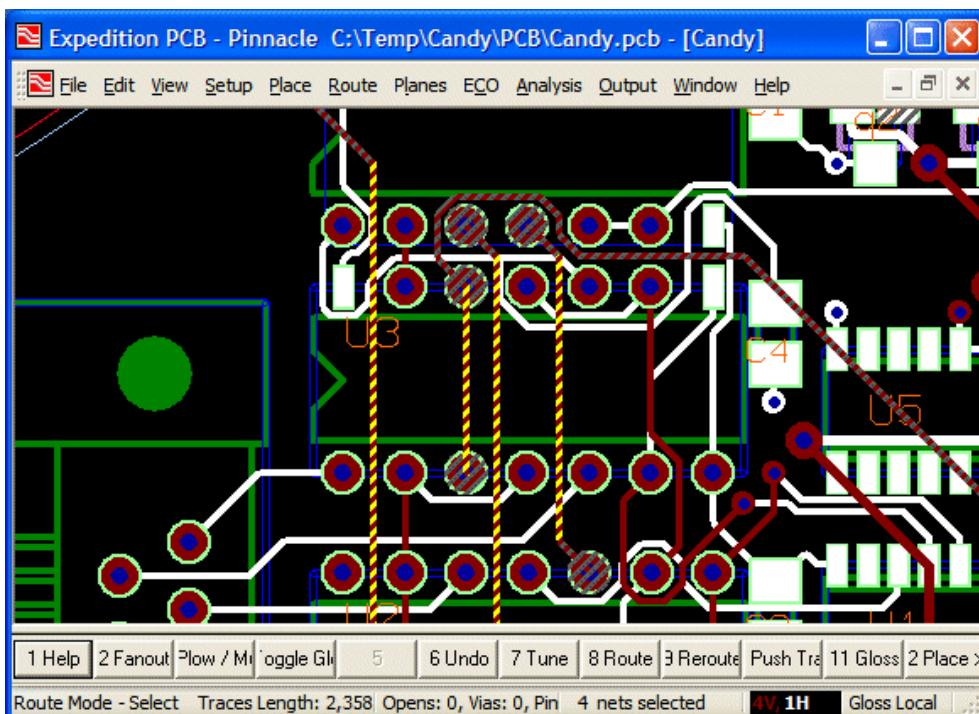

Figure 12-9. Zoom in on component U3 in the Candy.pcb design document.
- 2) Open the *Candy.pcb* document, zoom in on component *U3*, and select the four traces crossing the middle of this component as illustrated in Figure 12-9.